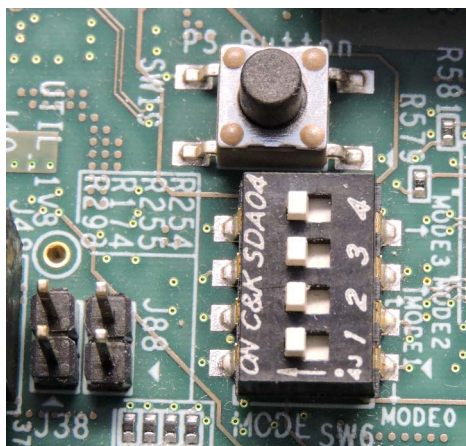

Figure 2-14: SW6 Switch Settings for JTAG Boot Mode
4. Power on the ZCU102 board using the switch indicated in Figure 2-14.
IMPORTANT: Ensure that the SW6 switch is set to JTAG boot mode as shown in Figure 2-14.